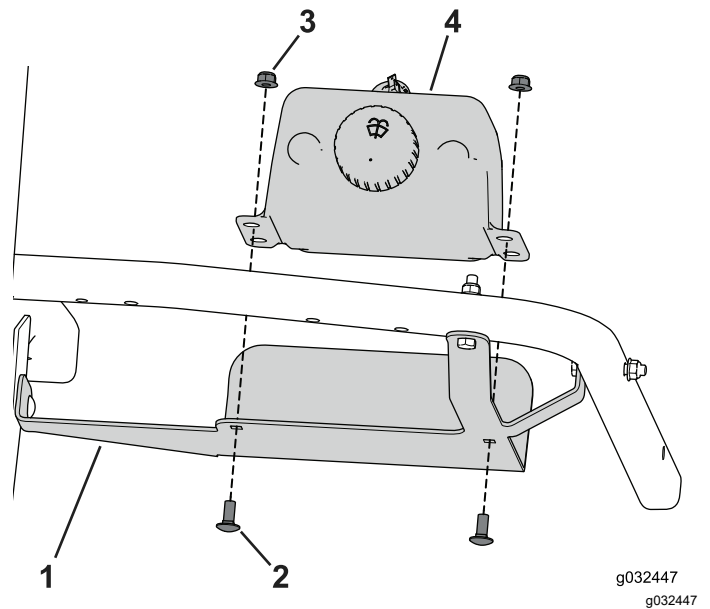

Figure 31
3. Use the 2 carriage bolts (5/16 x 3/4 inch) and flange nuts to secure the washer bottle to the bracket (Figure 31).